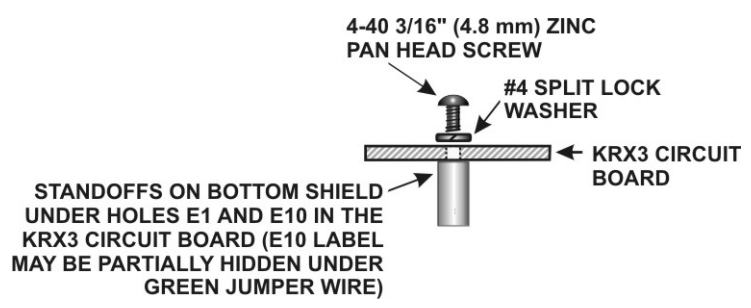

Figure 7. Mounting KRX3 Main PC Board on Bottom Shield.
- Secure the KRX3 main circuit board to the standoffs at E1 and E10 with 4-40 3/16" (4.8 mm) black pan head screws and #4 split lock washers you removed earlier (see Figure 7).